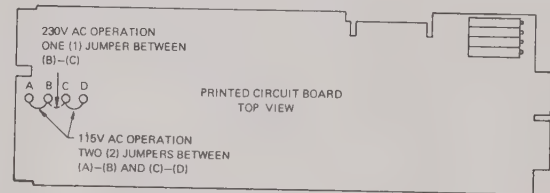

FIG. 2-3 CONVERSION TO 230 V AC LINE OPERATION
- 2-5 PCX and PCX–MAT power supplies are normally delivered for operation on a single phase, 105 to 125 V AC source, 50 to 65 Hz. For operation on 210 to 225 V sources, the jumper connections on the main transformer (T201) must be changed as shown in FIG. 2-3